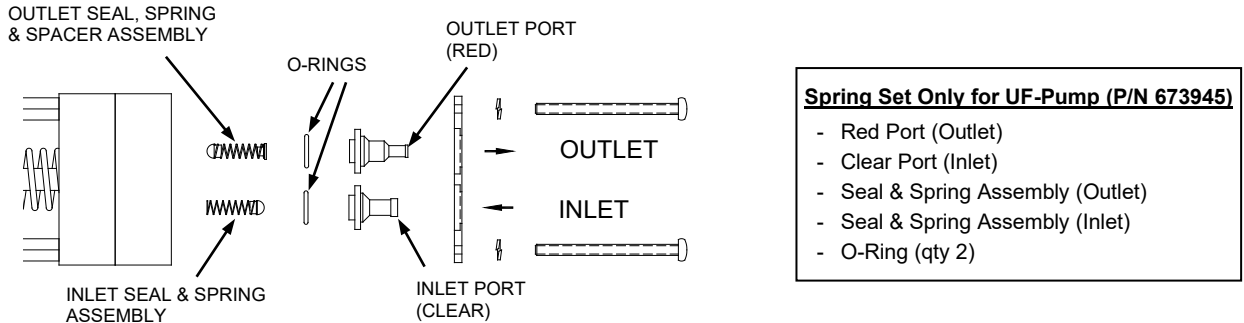

Figure 19 – UF Pump Exploded View
64. Rebuild the UF pump assembly using parts in the Spring Set only for UF-Pump (P/N 673945) included in the kit. Refer to Figure 19 for the correct parts for the UF pump.